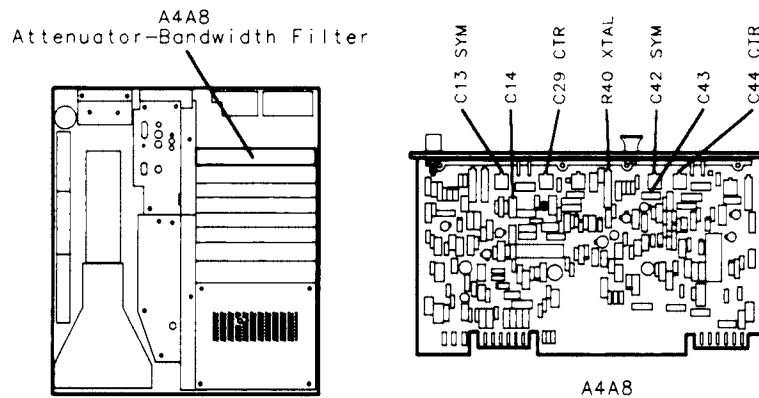

Figure 3-44.
37. Adjust A4A8C44 CTR to center signal on center graticule line. Adjust A4A8C42 SYM for best symmetry of signal. See Figure 3-44 for location of adjustments. If unable to adjust A4A8C42 SYM for satisfactory signal symmetry, increase or decrease value of A4A8C43. Refer to Table 3-3 for range of values.
39. Adjust A4A8C29 CTR to center signal on center graticule line. Adjust A4A8C13 SYM for best symmetry of signal. See Figure 3-44 for location of adjustments. If unable to adjust A4A8C13 SYM for satisfactory signal symmetry, increase or decrease value of A4A8C14. Refer to Table 3-3 for range of values.
42. Adjust A4A8R40 XTAL to align markers on display. MARKER Δ level should indicate 1.00 X. See Figure 3-44 for location of adjustment.